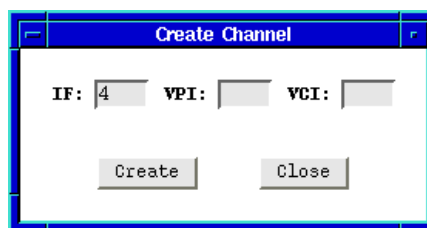

Figure 5-2. The ATM Create Channel Window
1. From the AToM Mib window, click to select . The Create Channel window, Figure 5-2, will appear.